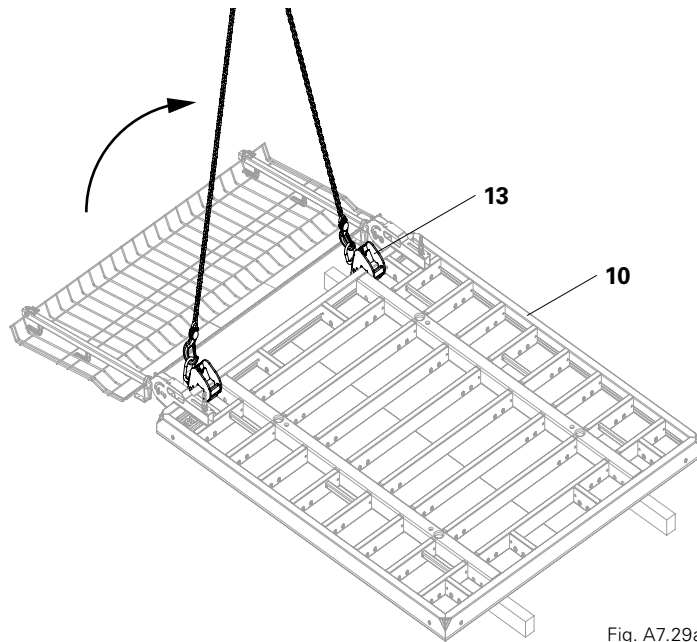

Fig. A7.29a
1. Mount Lifting Hook (13). Ensure that the crane lifting chains are in front of the Side Mesh Barrier. (Fig. A7.29a)
2. Erect panel (10). (Fig. A7.29a + A7.29b)